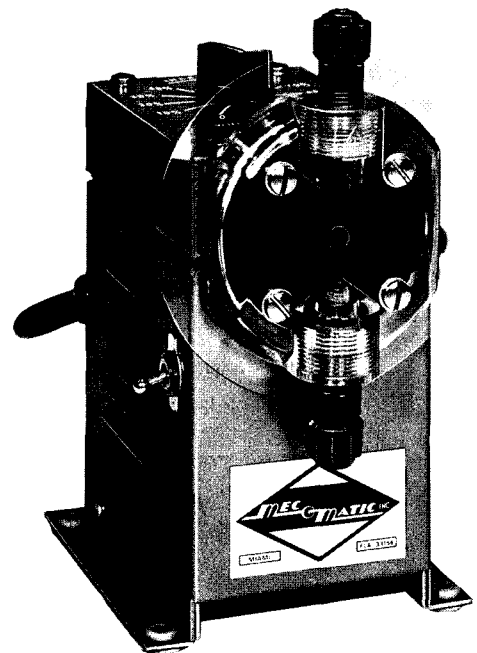

Figure 3. Chemical feed pump photo courtesy of The Lindsay Company, Division of Union Tank Car Co., 455 Woodland Drive, St. Paul, Minnesota 55119.
A typical chemical feed pump is shown in figure 3 and the operation of the pump is shown in figure 4. Chamber volume increases as the diaphragm is pulled back. This forms a partial vacuum to draw the chemical into the chamber through the lower check valve. As the diaphragm is moved forward the lower check valve closes and forces the chemical out through the upper check valve into the water system.
Figure 4. Operation of chemical feed pump—parts are (1) electric motor, (2) check valves, (3) pumping chamber, (4) diaphragm, and (5) housing and connections from motor to diaphragm (figure courtesy of The Lindsay Company as in figure 3).